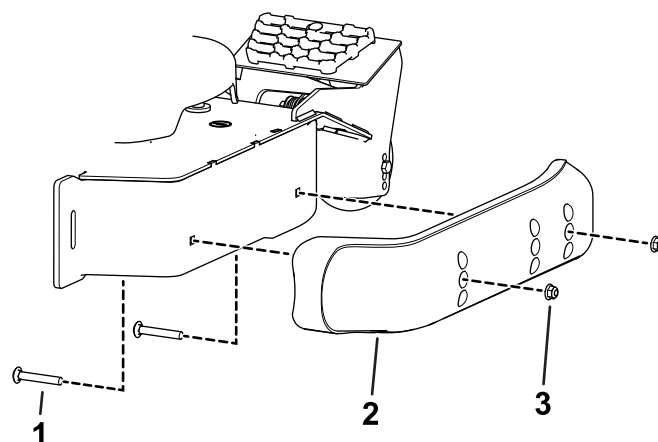

Figure 14
3. Move the skid to the desired position and secure it to the cutting unit with the flange-head bolts and nuts (Figure 14).